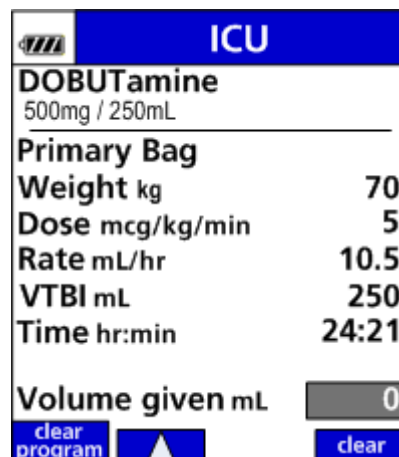

Figure 26. Programmed Setup Screen.
7. Review the parameters of the drug as displayed on the programmed Setup Screen. (See Figure 26.)